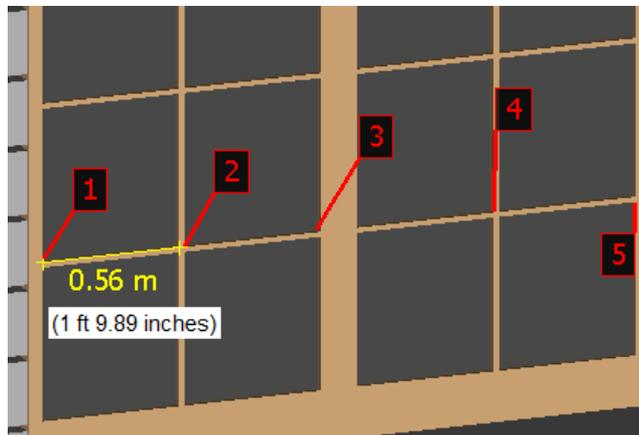

Figure 3-37 Distance calculated between point 1 and 2
3. Next, place the cursor on point **2** and click when the snap to vertex cursor appears; the calculated distance is displayed, as shown in Figure 3-37.